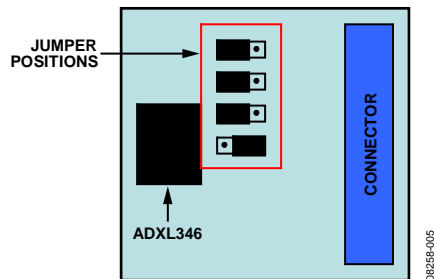

Figure 5. Correct Jumper Positions for the ADXL346 Satellite
5. Verify that the jumpers located in the center of the ADXL346 satellite are configured as shown in Figure 5.